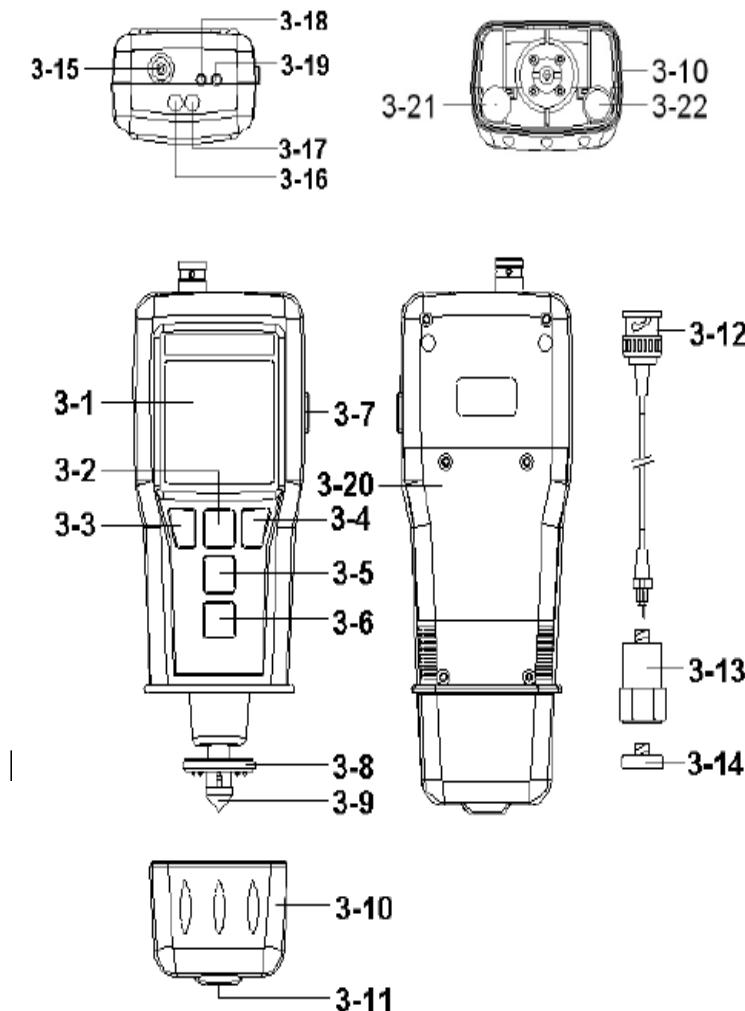
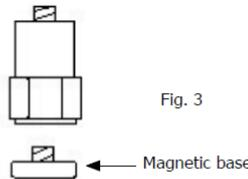

Fig. 1
Fig. 3
1. Plug in the " BNC plug " (3-12, Fig. 1) to the " BNC socket " (3-15, Fig. 1).
2. Power on the meter by pressing the " Power button " (3-2, Fig. 1).
3. a) For the Acceleration measurement, press the " Unit button " (3-6, Fig. 1) once until the display show the " ACC ", " m/s² ", " RMS " symbol or the " ACC ", " g ", " RMS " symbol.
b) For the Velocity measurement, press the " Unit button " (3-6, Fig. 1) once until the display show the " VEL ", " mm/s " and " RMS " symbol or the " VEL ", " cm/s " and " RMS " symbol.
c) For the Displacement measurement, press the " Unit button " (3-6, Fig. 1) once until the display show the " DISP(P-P) ", " mm " symbol.
5. If the surface material of measuring article is the ferrous material, connect " Vibration sensor " (3-13, Fig. 1) with the " Magnetic base " (3-14), refer Fig. 3.
During the measurement, press the " Unit button " (3-6, Fig. 1) at least 2 second continuously, the display unit can be changed from the Imperial unit to Metric unit or be changed from Metric unit to Imperial unit.
During the Acceleration, Velocity, Displacement measurement if press " Function/Send button " (3-5, Fig. 1) once can select the following function :
If intend rest the " MAX HOLD " value, just press the " Zero button " (3-3, Fig. 1) > 2 sec continuously, the display will return to zero and make the new max. hold value measurement again.
During the measurement, push the " Hold button " (3-3, Fig. 1) will hold the measured value & the LCD will show " HOLD " symbol.
1. Press the " REC button " (3-4, Fig. 1) once to start the Data Record function. " REC " will be displayed.
- a) Press the " REC button " (3-4, Fig. 1) once, the "REC MAX. " symbol along with the maximum value will appear on the display.
To delete the maximum value, just press the " Hold button " (3-3, Fig. 1) once. The display will show " REC " and execute the memory function continuously.
- b) Press the " REC button " (3-4, Fig. 1) again, the REC MIN. " symbol along with the minimum value will appear on the display. To delete the minimum value, just press the " Hold button " (3-3, Fig. 1) once, then the display will show the " REC " symbol only and execute the memory function continuously.
1. Press the " Function button " (3-5, Fig. 1) to the " Acceleration " position.
3. Press the " Zero button " (3-3, Fig. 1) continuously at least 2 second, the display will return to zero value with default.
- a) Press the " REC Button " (3-4, Fig. 1) once to start the Data Record function and there will be a " REC. " symbol on the display.
Press the " Logger Button " (3-6, Fig. 1) once to start the Data Logger function. The " " symbol is flashed per the sampling time and the data will be saved into the memory circuit. Now the Date Logger function is executed.
Press the "Logger Button" (3-6, Fig.1) once, save the data one time into the memory circuit.
- c) During the Data Logger function is executed, press the " Logger button " (3-6, Fig. 1) once will stop to execute the data logger function, the symbol "  " will be disappeared. If press the "Logger Button" (3-6, Fig.1) once again will continuous the Data Logger function.